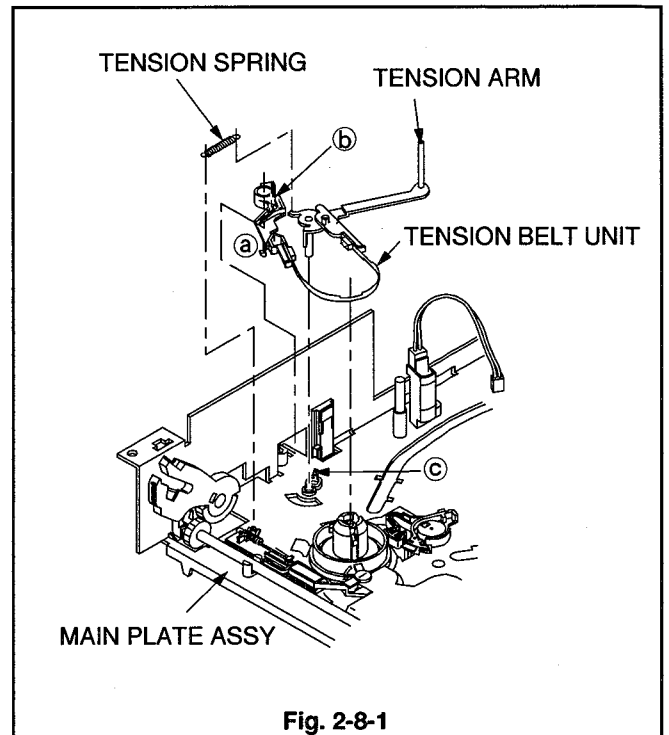

Fig. 2-8-1
- 1 Remove the TENSION SPRING shown in Fig. 2-8-1.
- 3 Unfasten the two catches (a) and (b) of the TENSION BELT UNIT shown in Fig. 2-8-1. Unfasten the catch (c) of the MAIN PLATE ASSY. Remove the TENSION BELT UNIT with the TENSION ARM attached.
- 5 Install the TENSION SPRING shown in Fig. 2-8-1.